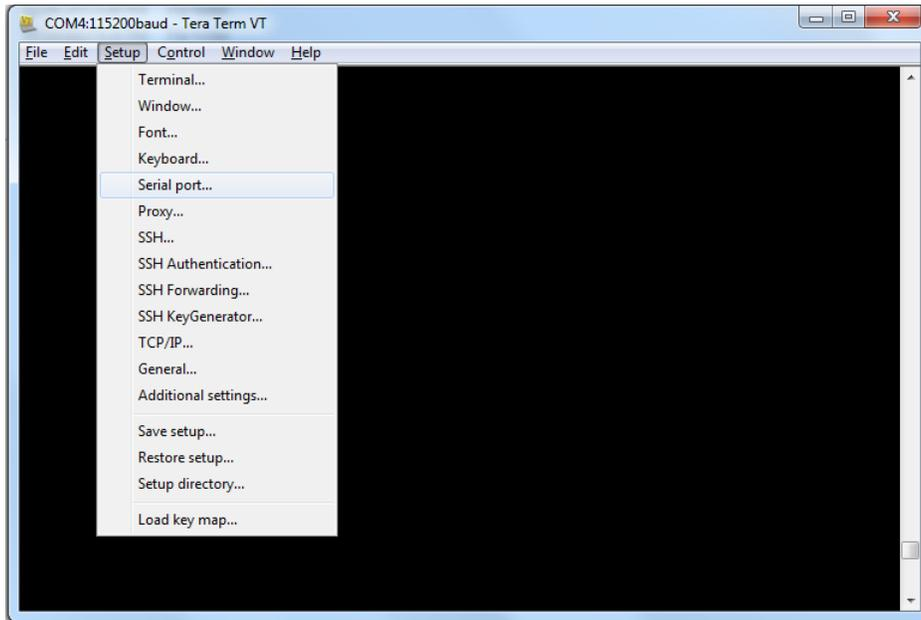

Figure 3. Tera Term Serial Port Tab
4. Go to Setup → Serial port (see Figure 3).